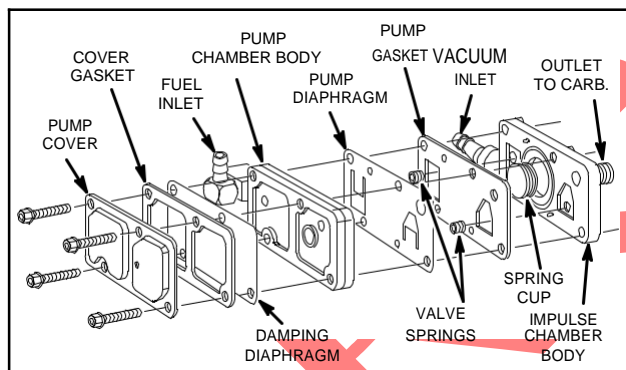

Fig. 313 - EXPLODED VIEW, TYPICAL FUEL PUMP
11. Torque screws to 10 to 15 in. lbs. (1.1 to 1.7 Nm) See Fig. 313 for exploded view.